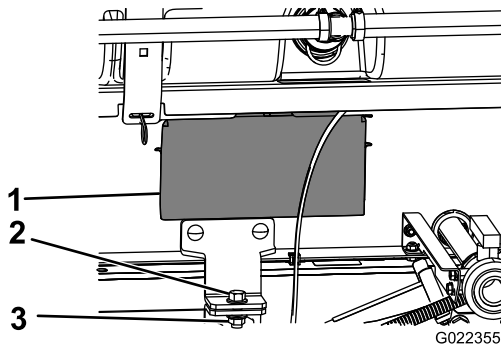

Figure 13
- Use the access panels on both sides of the tank skid to check for pinching of any hoses or wiring (Figure 13).